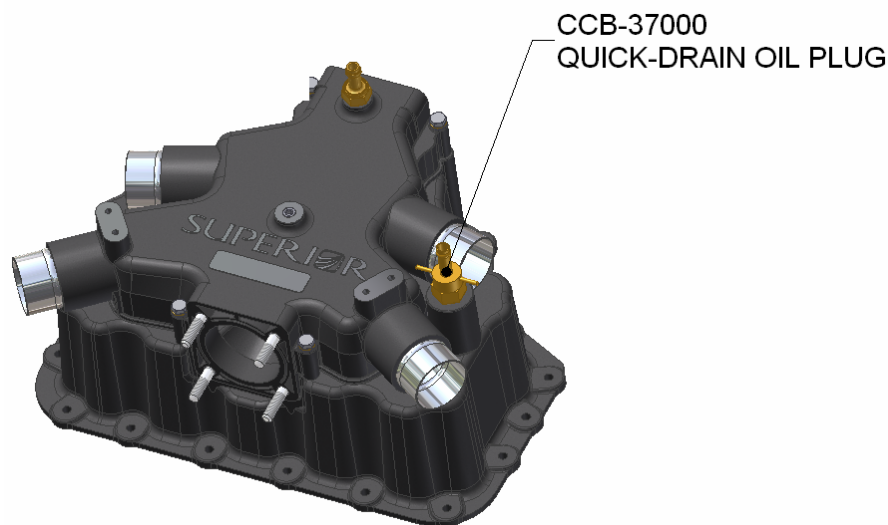

Figure 1
2. Apply aviation grade Form-A-Gasket to the threads of the Quick-Drain Oil Plug and install as shown in Figure 1 below. Torque to 160 In-Lb as specified in the instruction card packaged with the Quick-Drain Oil Plug and install safety wire per standard aviation practices.